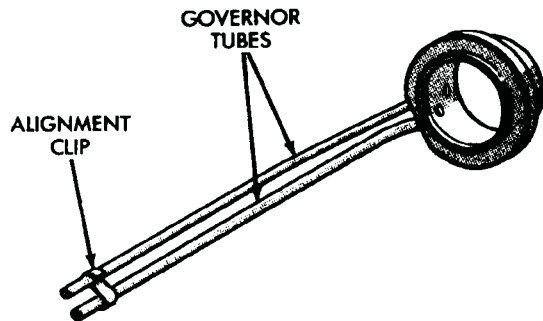

Fig. 71 Positioning Governor Tube Alignment Clip
(15) Install alignment clip on governor tubes (Fig. 71). Slide clip up against shoulder on each tube.